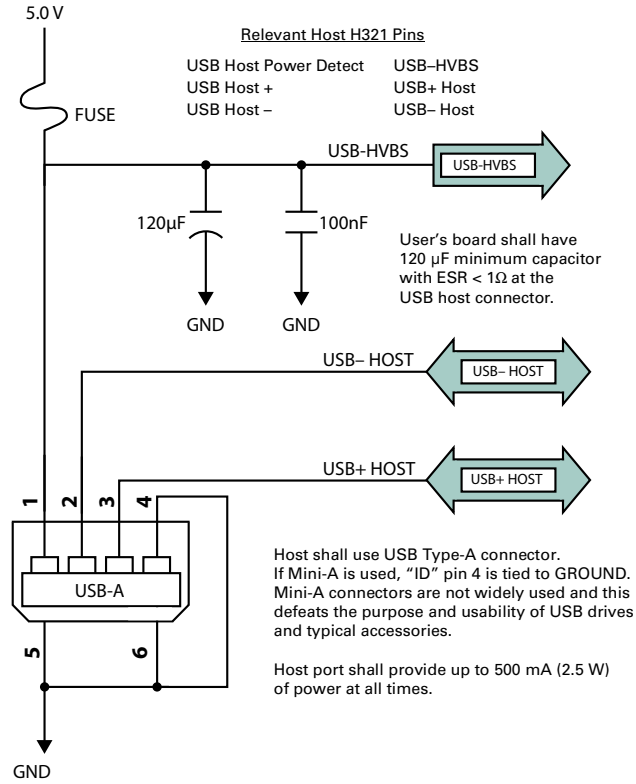

Figure 2-4: H321 USB host design example
- USB Host port (data storage) shown in Figure 2-4 on page 16 serves as a data storage port, such as with a USB flash drive